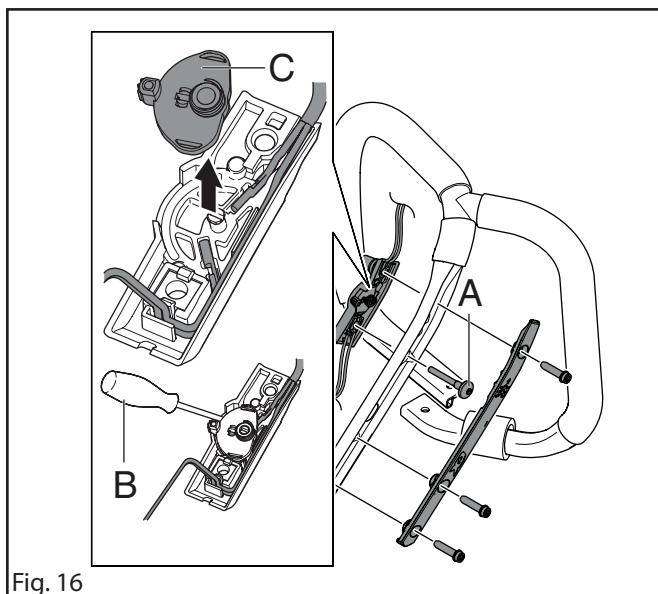

Fig. 16
- Unscrew the screw holding the switch (A).
- Use a flat screwdriver to dismantle the switch (B).
- Disconnect the cables. Note the positions of the cables. See figure 16.